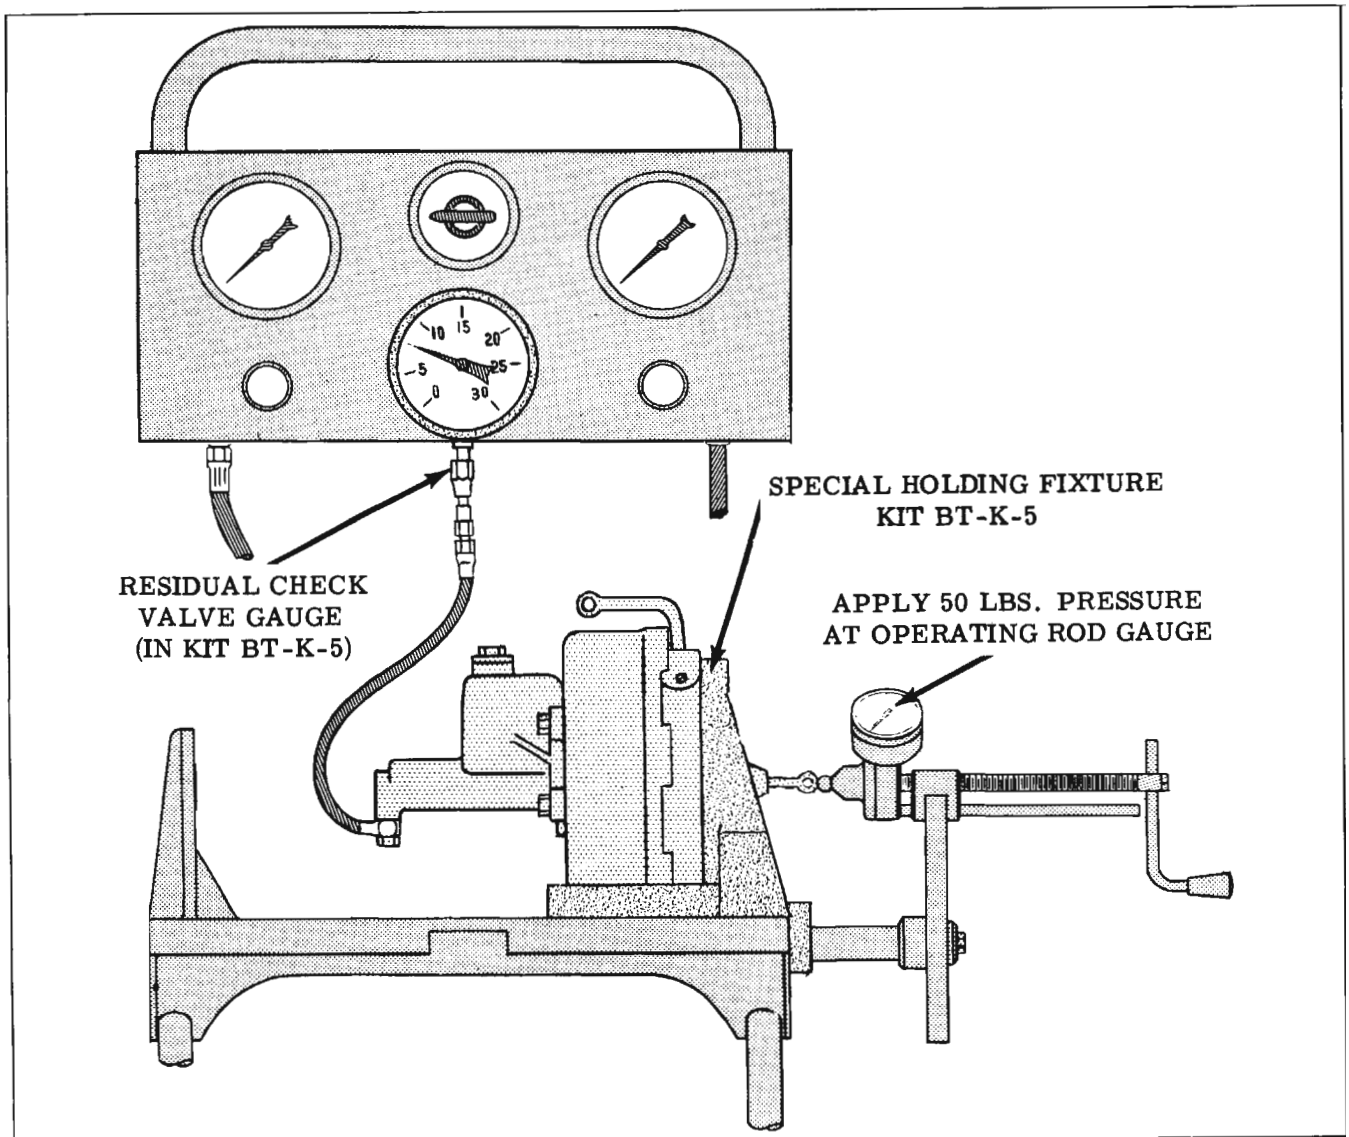

Fig. 7-37 Checking Residual Check Valve
1. Hook up gauge as shown in Fig. 7-37.